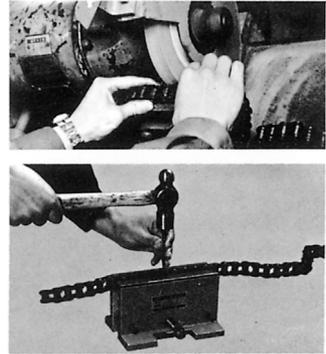

Figure 4-1: Disconnecting RS Roller Chain
2. As shown in Figure 4-1, put the chain into the vise groove and tighten the vise to secure the chain.